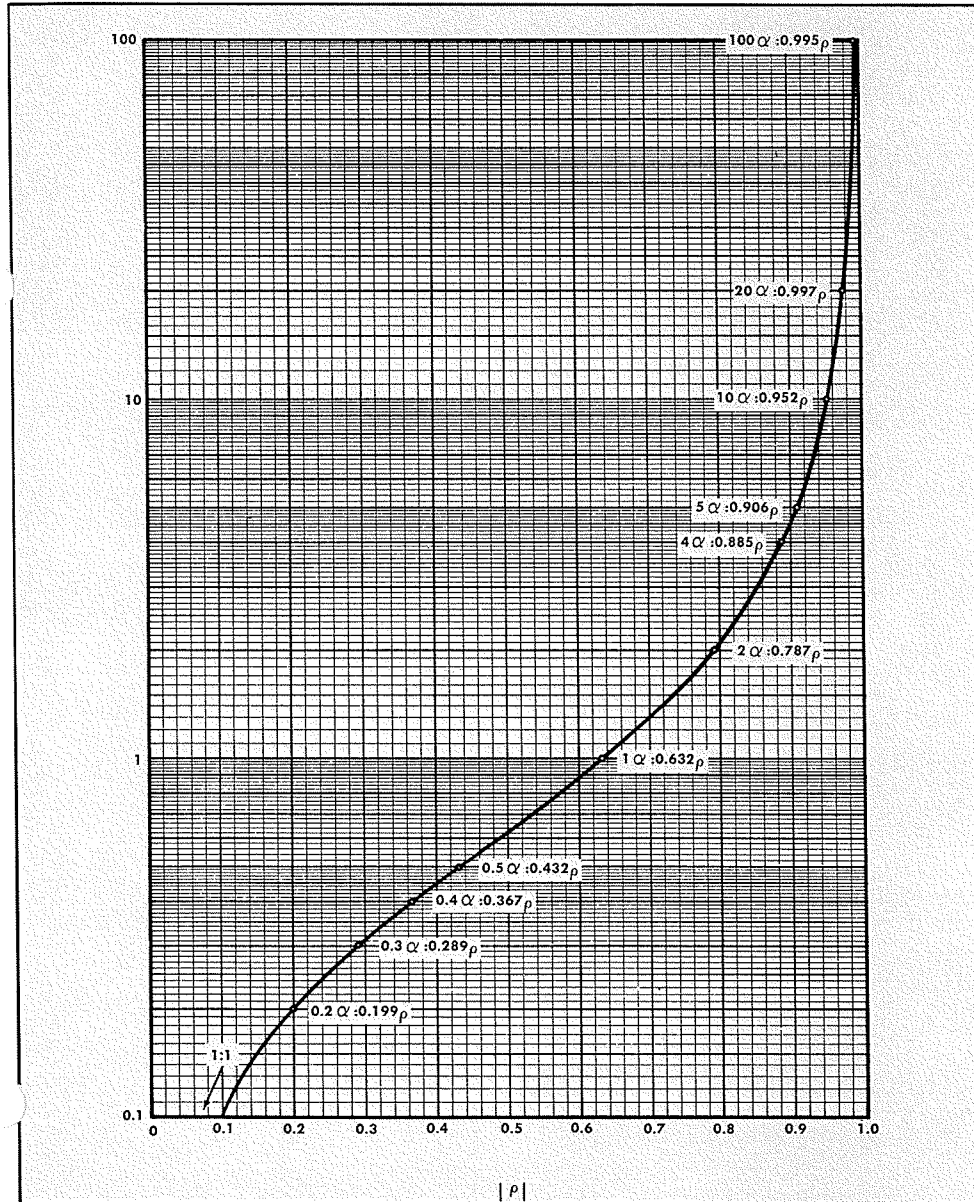

Fig 14. Graph for conversion of small reactance observed ρ to α for use in formulae (10) and (12).
where L is in henries, Z_o is in ohms, t_r is the system 10% to 90% risetime in seconds, and α is a dimensionless coefficient related to the observed reflection coefficient ρ by either the graph or Fig 14, or formula (11).
The waveform of Fig 15B has an observed deflection coefficient of $+0.58$. From the graph of Fig 14, 0.58ρ is equal to 0.82α . The risetime of the system was found to be 160 ps by disconnecting the insertion unit in which the inductor was located and measuring the reflection signal risetime. These figures placed into formula (11) give a value for the series inductor of 16.4 nH ($1.64 \times 10^{-8} \text{ H}$). This correlates very well with the previous parallel measurement.
Calculations made from Fig. 18A and B using formula (11) and the curve of Fig 14,